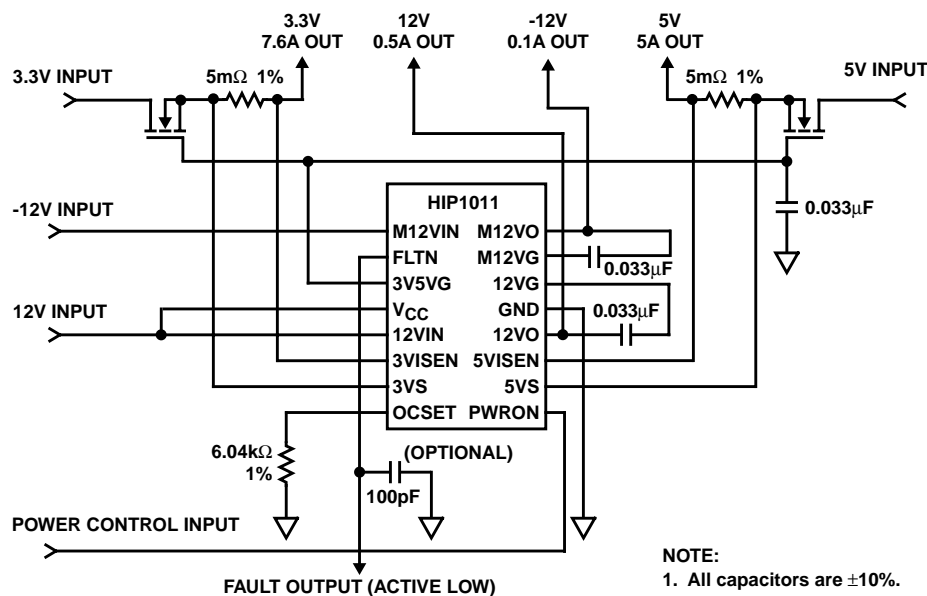

FIGURE 2. HIP1011 TYPICAL APPLICATION
Figure 2 illustrates the typical implementation of the HIP1011. Additional components for optimizing performance in particular applications, ambient electrical noise levels or desired features will be necessary.
The HIP1011, two power MOSFETs and a few passive components as configured in Figure 2, create a small and simple yet complete power control solution. It provides the maximum specified current for each supply to the PCI adapter slot. Over current monitoring and protection for the 3.3V and 5V supplies is provided by sensing the voltage across external current-sense resistors. For the +12V and -12V inputs, over current protection is provided internally. On-chip references are used to monitor the +5V, +3.3V and +12V outputs for under voltage conditions. During an over current condition on any output, or an under voltage condition on the +5V, +3.3V or +12V outputs, all MOSFETs are immediately latched-off and a LOW (0V) is presented to the FLTN output. During initial power-up of the main V_{CC} supply (+12V), the PWRON input is inhibited from turning on the switches, and the latch is held in the reset state until the V_{CC} input is greater than 10V. If FLTN is latched low and PWRON is cycled low then high, the FLTN latch will clear. User programming of the over current threshold by a resistor connected to the OCSET pin and turn-on slew rate by capacitors connected to the gate pins is provided.
1. For PCI applications, set R_{OCSET} to $6.04\text{k}\Omega$, and use $5\text{m}\Omega$ 1% sense resistors (see Figure 2).
Figure 2 meets all PCI specifications for slew rate and over current protection.